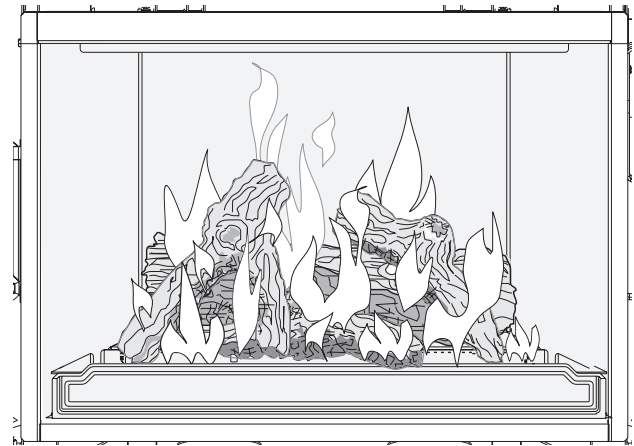

Figure 4. Correct flame pattern. After derating, the air shutter may require adjustment.
- 7. System Check.** Turn on the gas supply. Using the lighting instructions in the manual or on the rating plate, light the pilot and main burner. Check the flame pattern, (fig. 4) and adjust the Air Shutter as necessary to achieve the desired affect. See "System Check" in the Installation Manual for detailed procedures for flame appearance and air shutter adjustment.